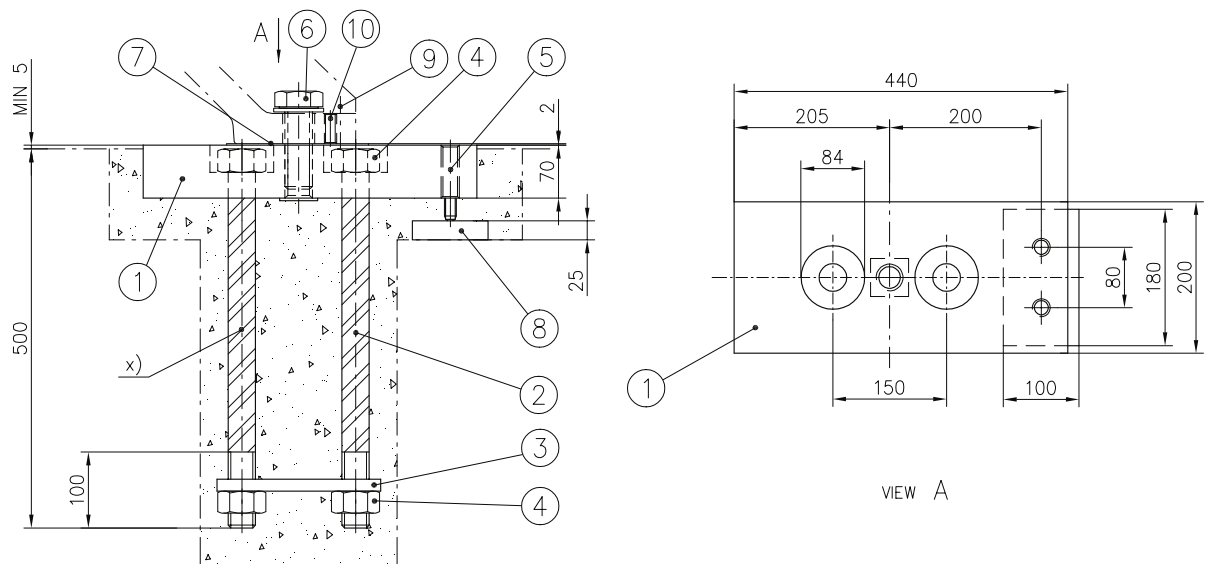

Figure 18 Typical foundation stud assembly
In order to assemble the foundation stud or sole plate set, the machine must be suspended above the floor by a crane. Proceed as follows, see Figure 18 Typical foundation stud assembly:
- Wrap a layer of tape around the upper part of the anchor bolts (part 2) according to Figure 18 Typical foundation stud assembly. The tape will prevent the upper part of the bolt from being stuck in the concrete and enables it to be retightened after the concrete has set.